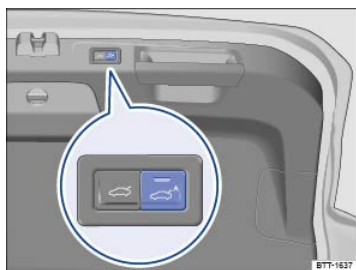

Fig. 67 In the open trunk lid: Button for the automatic closing feature (Easy Close).
- Press the button in the open trunk lid ⇒ Fig. 67A or ⇒ Fig. 67①B ⇒ ▲.
A warning chime sounds when the trunk lid is opened or closed, *except* when opening or closing with the button on the trunk lid ⇒ Fig. 62 or the buttons in the trunk lid ⇒ Fig. 67.
- Press the button in the open trunk lid ⇒ Fig. 67A, or ⇒ Fig. 67①B until the emergency flashers blink and a chime sounds.
- Press the  button in the open trunk lid ⇒ *Fig. 67*, or ⇒ *Fig. 67* until the emergency flashers blink and a chime sounds.
If your vehicle has Keyless Access, it may also be equipped with the Easy Close button ⇒ Fig. 67.